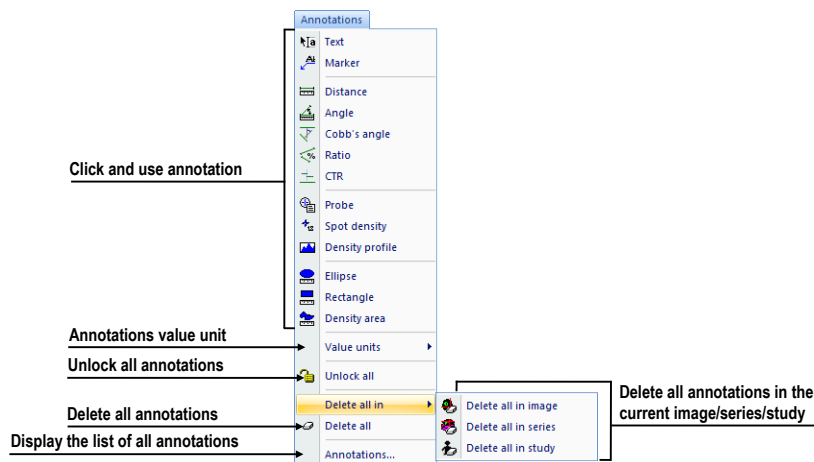

Figure 42 – Annotations menu
- **Annotations** – functions for annotation management in TomoCon. Creating various types of annotation and measurements in the current view and removing and editing selected annotations (see Figure 42).